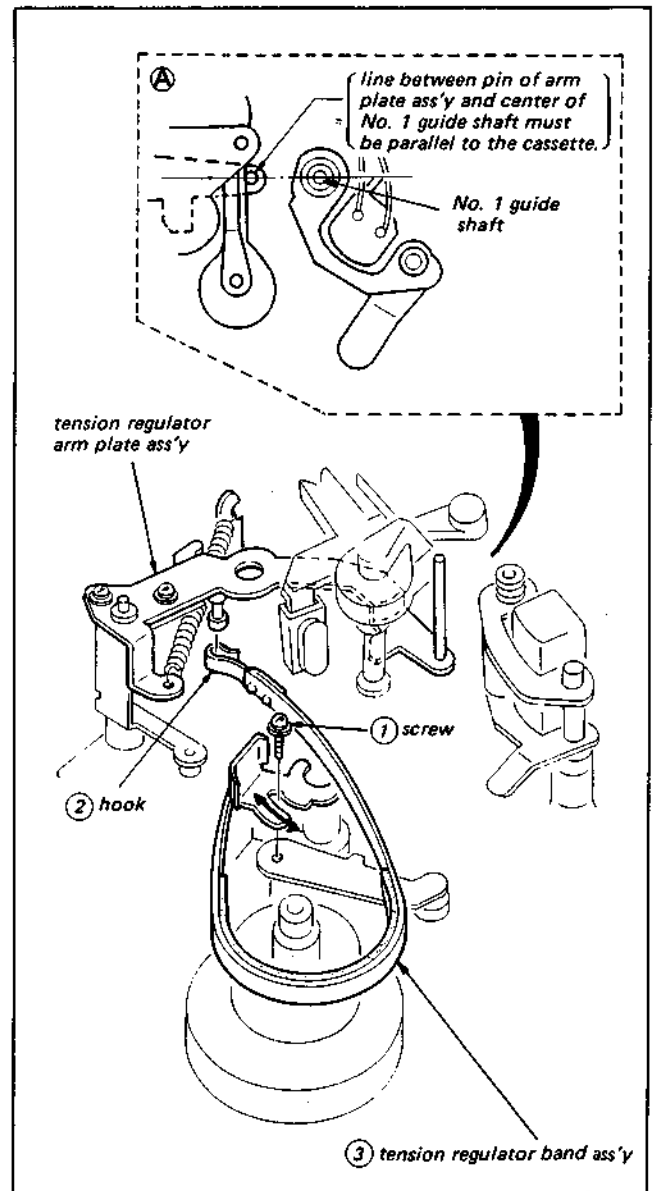

Fig. 3-10. Replacement and adjustment of the tension regulator band assembly
1. The tension regulator band assembly can be removed after removing screw ① and hook ② shown in Fig. 3-10.
- (iii) Move the tension regulator band assembly ③ in the arrow direction as shown in Fig. 3-10 so that the positional relationship of the brake band assembly is as shown A in Fig. 3-10. Then tighten screw ①.